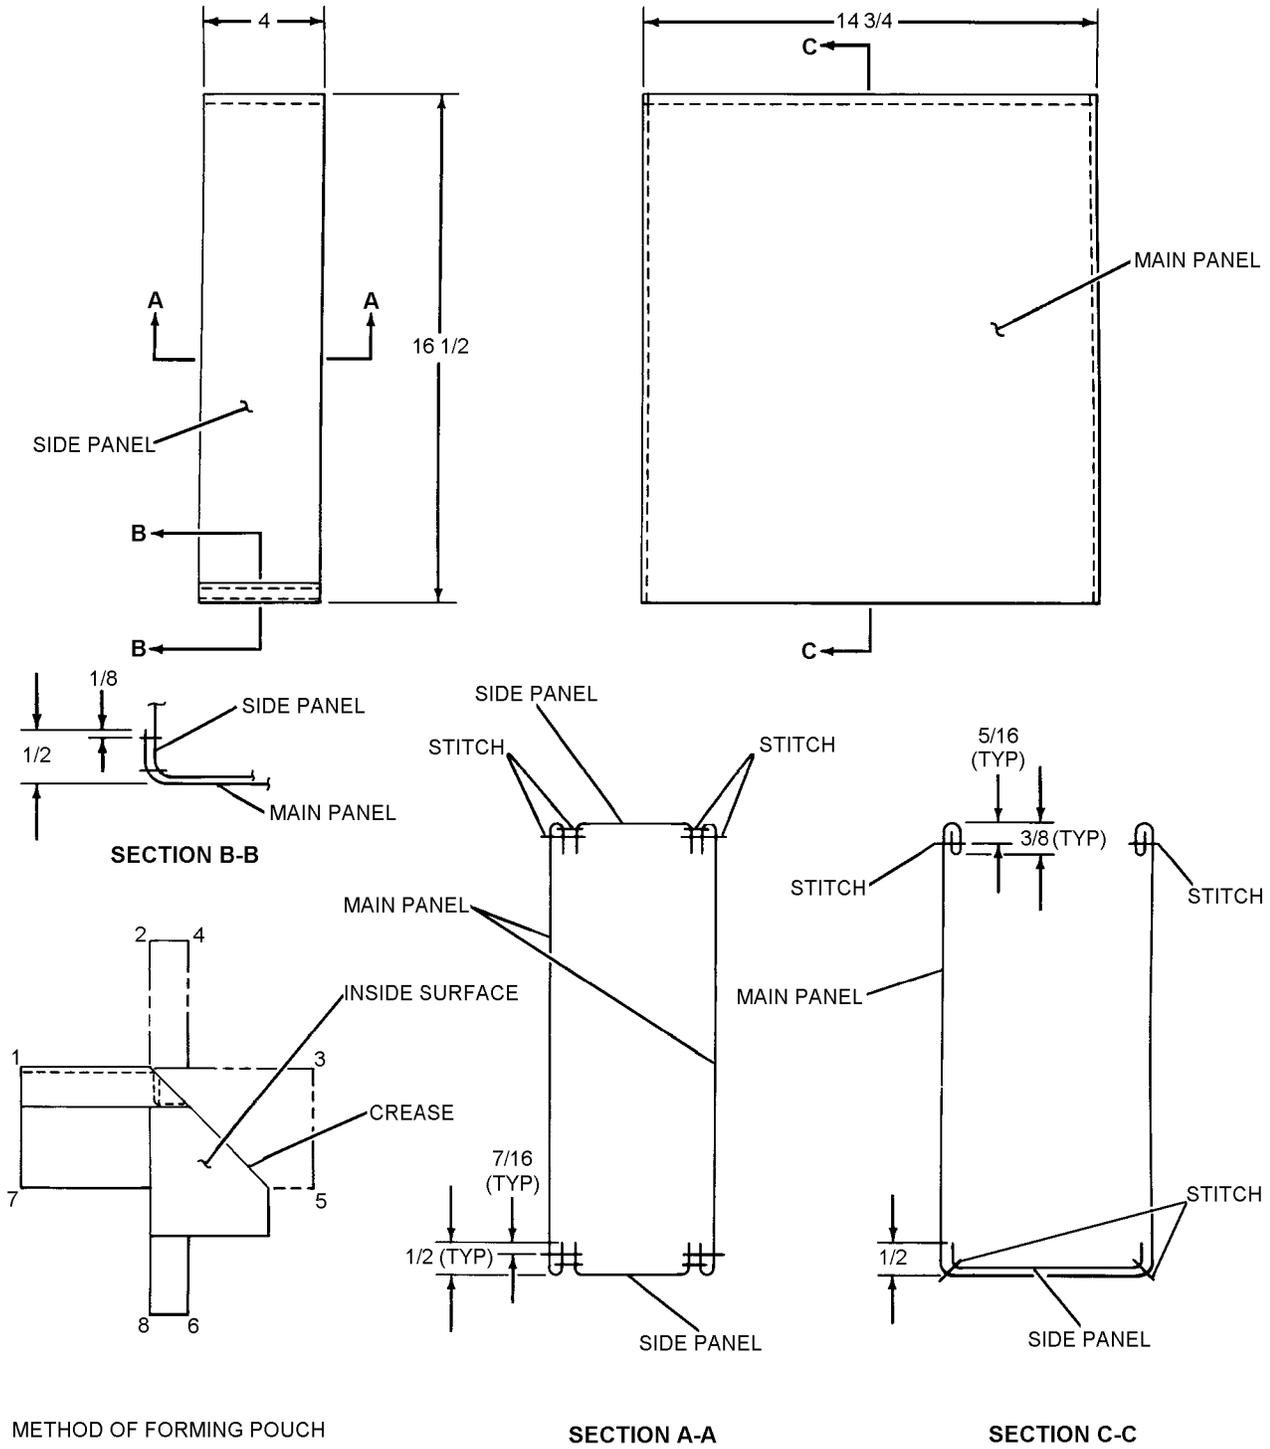

Figure 10-8. Retaining Line Pouch Assembly, Survival Equipment Container
2. Fabrication of Retaining Line Pouch Assembly. To make the retaining line pouch assemblies, refer to figure 10-8 and proceed as follows:
b. Place the main pouch panel on a flat surface, and center the side panel on the main panel with 16 3/4 inches of the side panel extending beyond each 38-inch edge of the main panel. Secure the side panel to the main panel with a row of stitching 1/2 inch in from each 49 1/4-inch side of the side panel and 1/8 and 1/2 inch in from the 38-inch edge of the main panel as shown in figure 10-8, Sections B-B and C-C.
c. With the side panel facing downward, form one pouch corner by folding the panels so that corner No. 1 falls on top of and coincides with corner No. 2. See Method of Forming Pouch in figure 10-8.
d. Stitch from the crease to the edge of the panels, parallel to the edge of the notch. The stitches shall be 1/2-inch in from the edge of the notch and shall be approximately 17 1/4 inches long. With the panels in the original position, form the second corner by placing corner No. 3 on top of corner No. 4 and stitching as before. The third and fourth corners shall be formed by mating corners Nos 5 with 6, and 7 with 8 respectively. Turn the corners right-side-out so that the seam allowance is inside. Stitch 1/16 inch in on the main panel for the full length of each vertical seam, as shown in Figure 10-8, Section A-A. Form a hem around the open edge of the assembled pouch by turning the raw edge under 3/8, and stitching 5/16 inch in from the open edge.